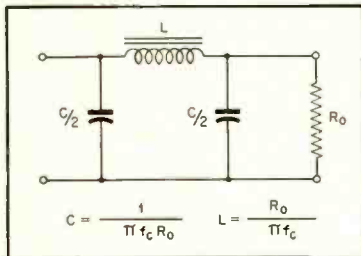

Fig. 2. Low-pass filter prototype, or constant- k section. R_0 is the terminating resistance; f_c is cut-off frequency.
Equations (8) and (9) are seen to be very similar to the equations for the low-pass filter prototype shown in Fig. 2. The equations indicate, however, that the values given by the reactance chart for L and C will be equal to one half of the value calculated from the prototype equations if R_0 is substituted for R_1 and R_2 and f_c is substituted for f .
For example, if it is desired to design a 10,000-ohm filter section with a cut-off frequency f_c of 1,000 cps, substituting these values in the equations of Fig. 2 give